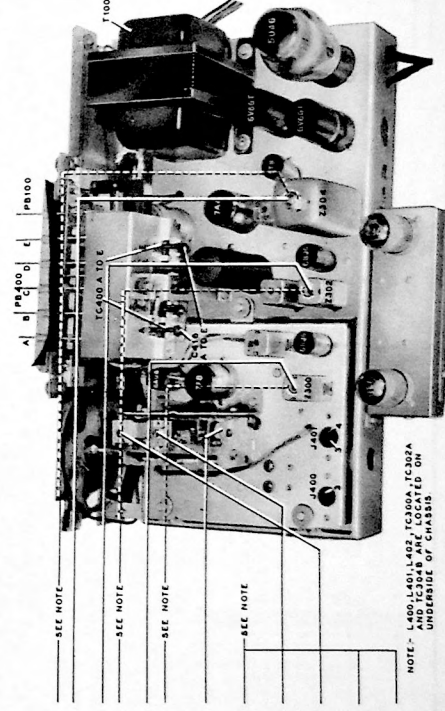

FIGURE 5. TOP VIEW, SHOWING FM TRIMMER LOCATIONS
**OUTPUT METER:** Connect between the No. 3 terminal (voice-coil connection) of the loop aerial socket, J400, and the chassis. See figure 5.
Note 2. Make two simple dipole aerials to feed the signals from the signal generator to the radio. Each dipole aerial may consist of two 30-inch lengths of rubber-covered wire. Connect one dipole aerial to terminals 3 and 4 on the FM aerial socket, J401, of the radio. See figure 5. Connect the other dipole aerial to the output leads of the signal generator. Place the two dipoles several feet apart.